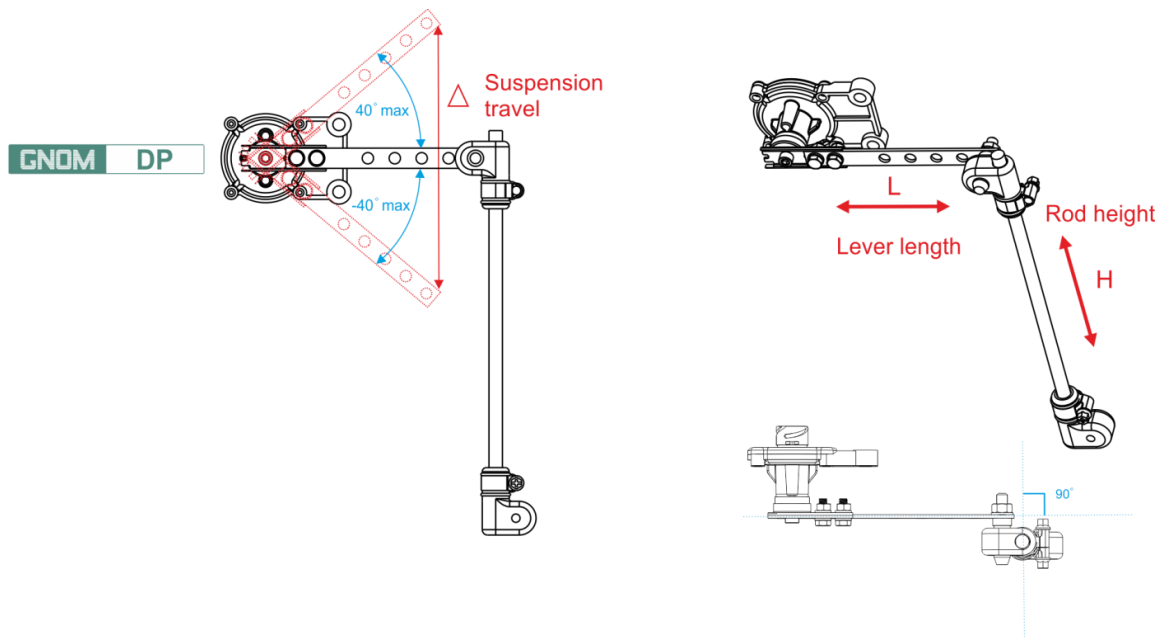

Figure 21 — Adjusting GNOM MK DP rod and lever for GNOM DP mounting
Initial adjustment of the rod height (H) and the lever length (L) (see figure 21) should be performed on a completely unloaded Vehicle.